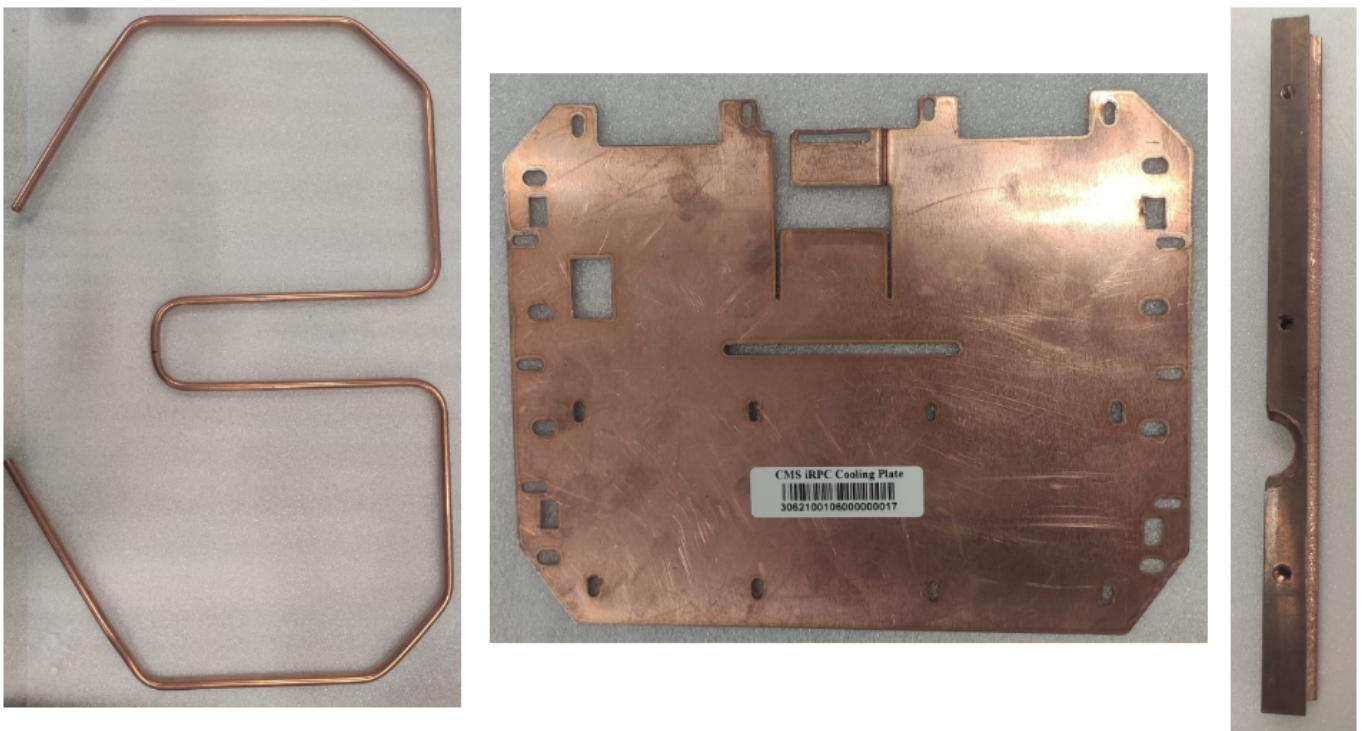
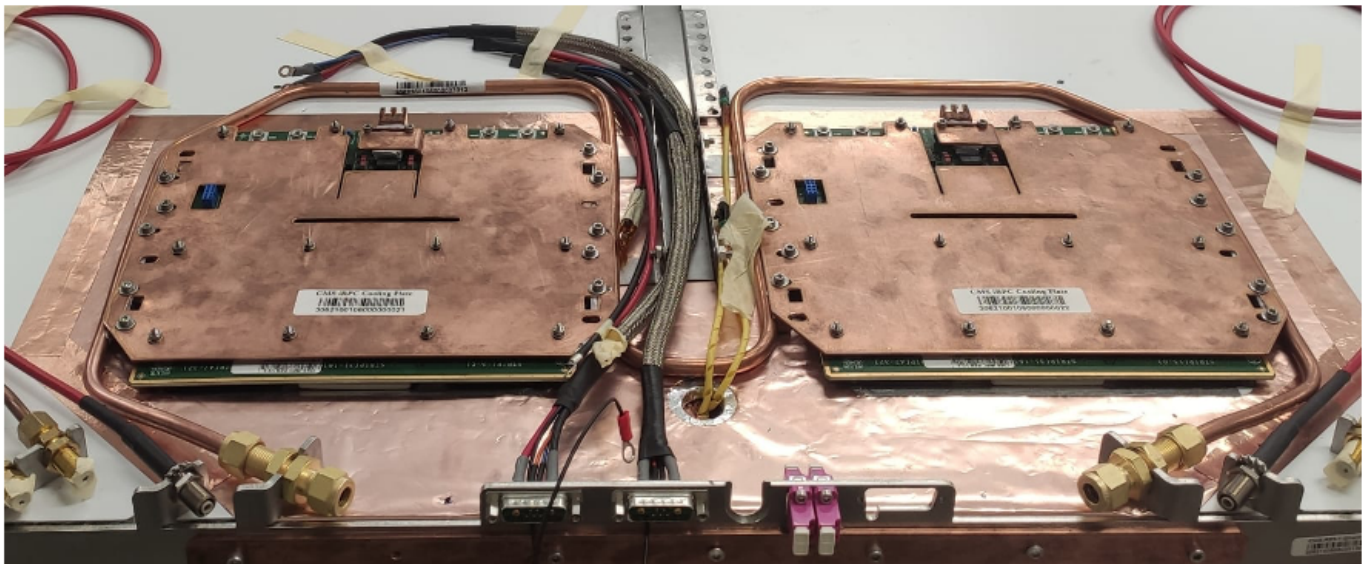

Figure 1
Figure 2
The electronic FEBs need to be cooled during operation. The cooling process will be done by circulating water in cooling pipes shown in Figure 1. Left attached to the cooling plate shown in Figure 1. Middle. The FEBs are sitting on bottom of the cooling plates. The cooling plate is attached to the cooling pipe by a L shape connector, shown in Figure 1. Right. Figure 2 shows the FEBs mounted on the chamber with the cooling components (Pipes, Plate, L bars).
12. Check the set point on the chiller by pressing on SET button. It should be at 17 °C and if not, you can adjust by pressing on SET button and in the same time increase/decrease the temperature from the arrows shown in Figure 2 to reach 17 °C